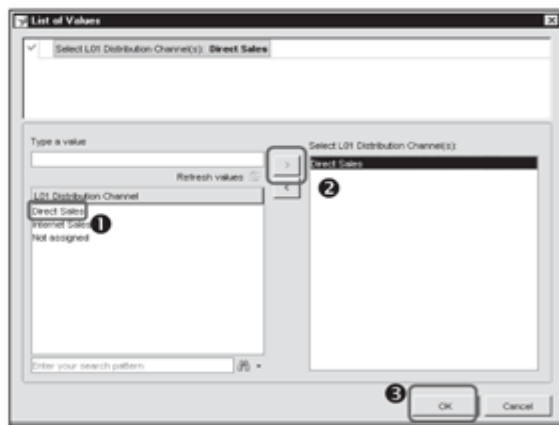

Figure 13.25 Restrict Filter with Values
After selecting Value(s) from List, a pop-up appears with values read from SAP NetWeaver BW for the distribution channel characteristic (Figure 13.25). Select the Direct Sales value (❶) and move it to the right pane by clicking on the arrow (❷). Return to the query definition by clicking OK (❸).